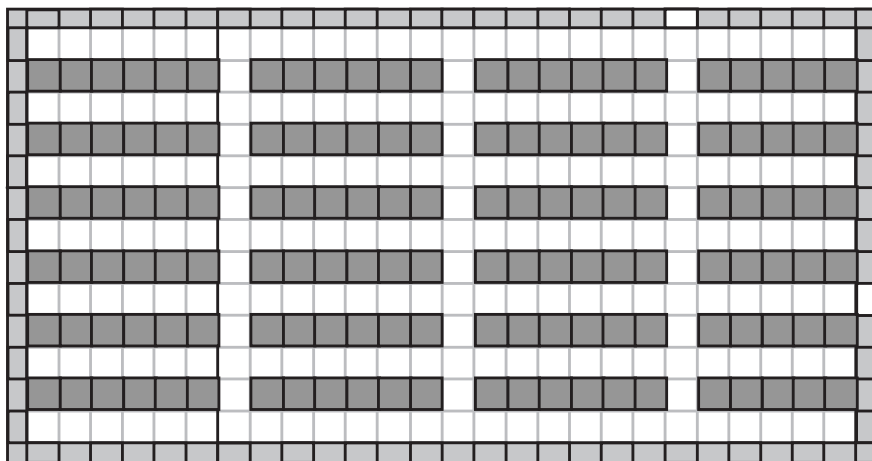

Figure 4
- Tile rows should be installed in approx 6 tile increments leaving a one tile space between each 6 tile row. The number of tiles between spaces may need to be adjusted based on the room dimensions **(Fig. 4)**.